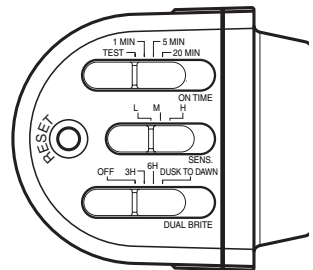

Figure 7
- If eave mounted, mount the fixture with sensor facing away from the house wall. Rotate the sensor so the controls on the bottom of the sensor (see Figure 7) face the ground.
2. Slide the sensitivity (SENS) switch to the “L” position, the ON-TIME switch to the TEST position, and the DUALBRITE switch to the OFF position (see Figure 7).
- Reset Button (see Figure 7) – Use a paper clip to press the RESET button for 15 seconds to reset the light.